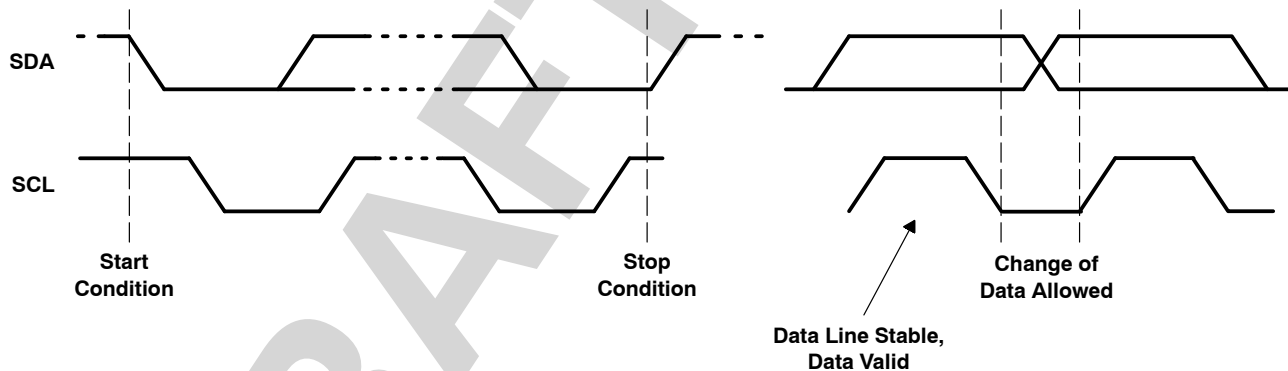

Figure 3-5. Serial EEPROM Start/Stop Conditions and Bit Transfers
The serial EEPROM interface signals require pullup resistors. The serial EEPROM protocol allows bidirectional transfers. Both the SCL and SDA signals are placed in a high-impedance state and pulled high when the bus is not active. A high-to-low transition of the SDA line defines a start condition (S). A low-to-high transition of SDA while SCL is high is defined as the stop condition (P). One bit is transferred during each clock pulse. The data on the SDA line must remain stable during the high period of the clock pulse, as changes in the data line at this time will be interpreted as a control signal. Data is valid and stable during the clock high period. Figure 3-5 illustrates this protocol.